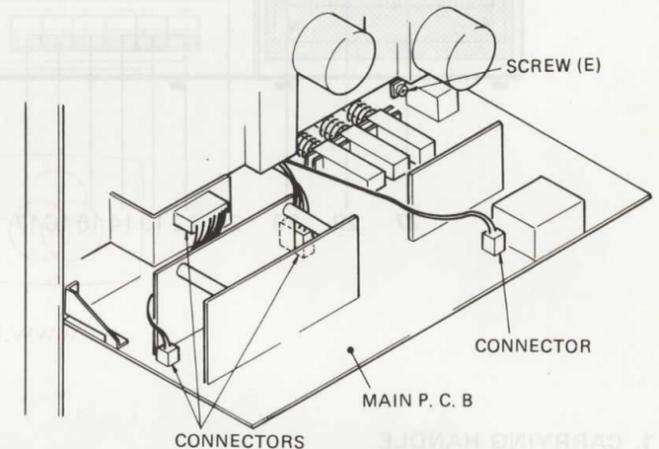

Fig. 4
- 2) Remove the wiring (4 connectors) running from the Main PCB to the cassette mechanism shown in Fig. 4.
- 3) Remove the 1 screw (E) shown in Fig. 4. The Main PCB can be removed while remaining connected to the Graphic EQ PCB.